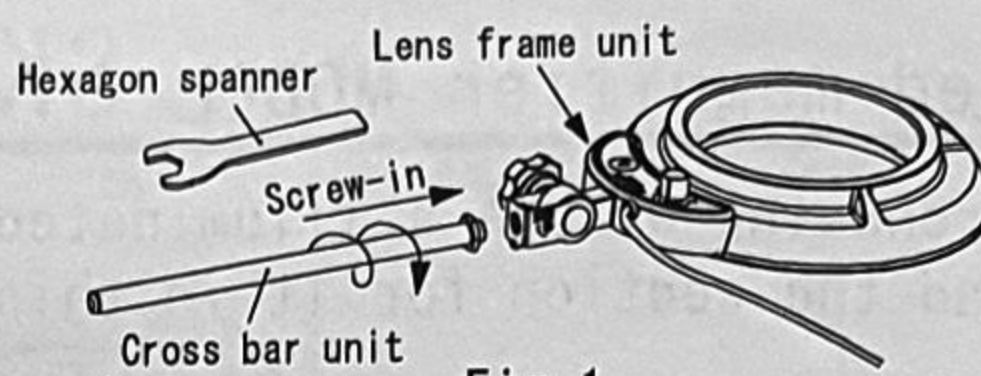

Fig.1
- ①Screw a crossbar unit into the screw aperture of the lamp frame unit by hand. (Fig.1)